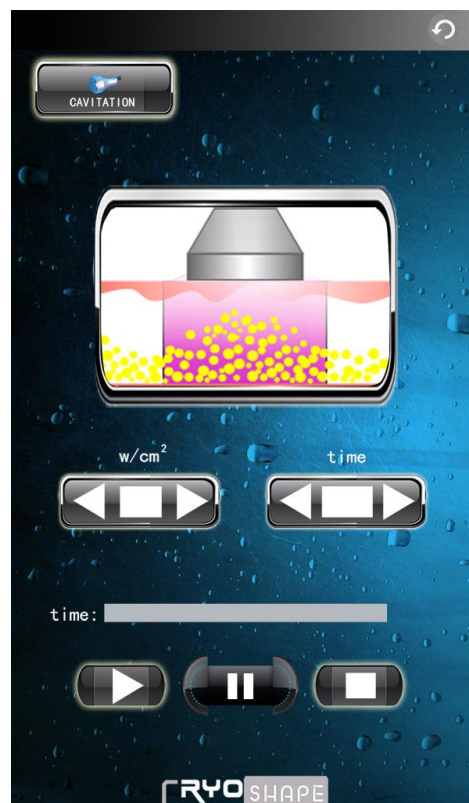

Fig.4 Operation interface for Cavitation
- ①. Click , enter the interface of Cavitation.
- ②. Click  to set the working time about 20 minutes.
- ③. Click  to set the working intensity: weak ~ strong, If need, click , back to the (Fig.4), and choose cryolipolysis function, .
- ④. First, put enough gel on the treatment skin.